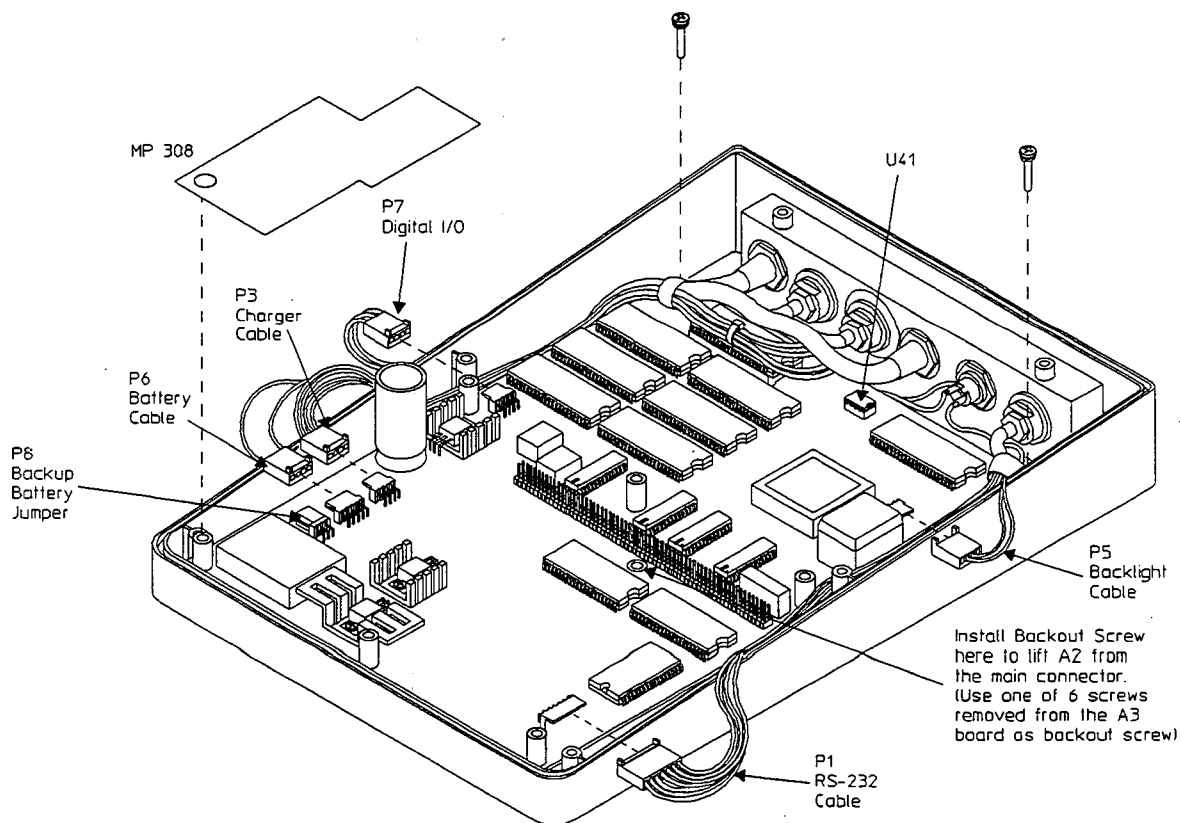

Figure 6-5.
2. Remove the two screws holding the A2 assembly as shown in figure 6-5.